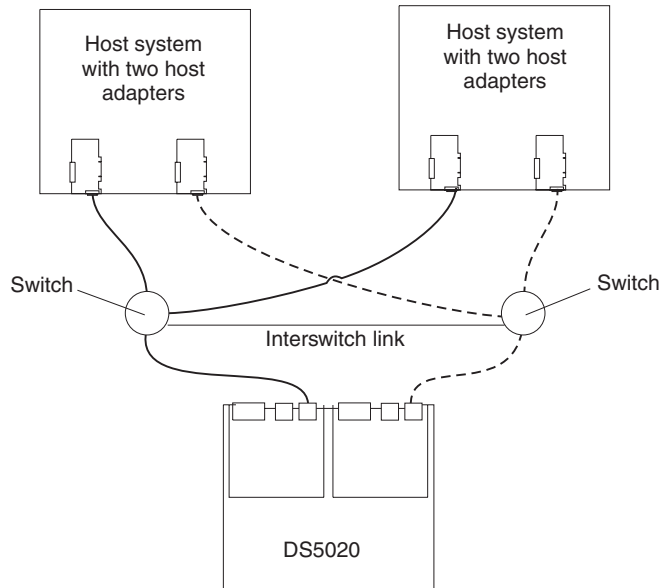

Figure 57. Example of a single SAN fabric configuration
- Single SAN fabric configuration, as shown in Figure 57 on page 86
In Figure 57, the Fibre Channel switches are connected together via the inter-switch link (ISL) to form a single SAN fabric.